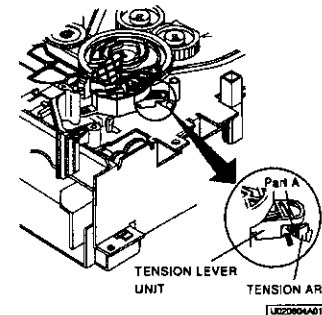

Fig. 2-8-4
- Move the part A of the spring of the TENSION LEVER UNIT shown in Fig. 2-8-4 in the direction shown by the arrow and install the TENSION ARM on the position shown in Fig. 2-8-4.